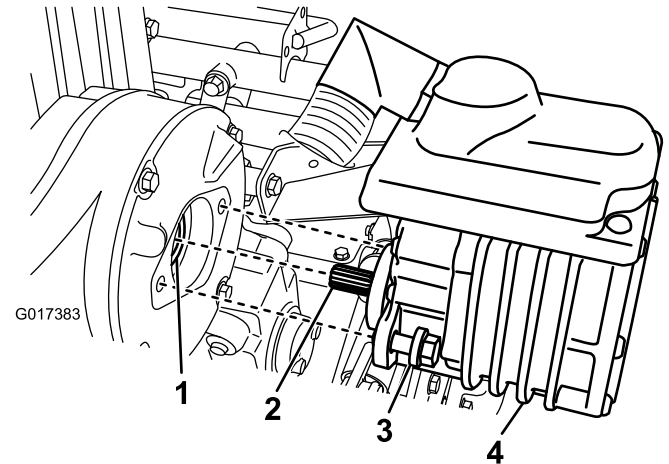

Figure 34
2. Remove the 2 bolts securing the motor to the transmission case (Figure 34).
4. Add one to two pumps of grease from a grease gun to the female coupler in the transmission case (Figure 34).